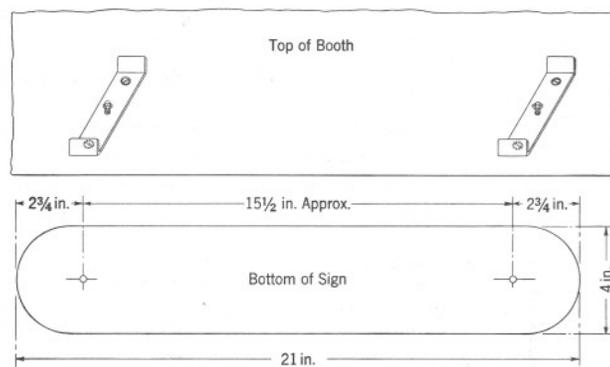

Fig. 5 – Installing KS-14154, List 4 Brackets at Top of Booth
- When mounting a KS-14154, List 1 sign on a horizontal surface, such as booth top, use two KS-14154, List 4 brackets, as shown in Fig. 5.